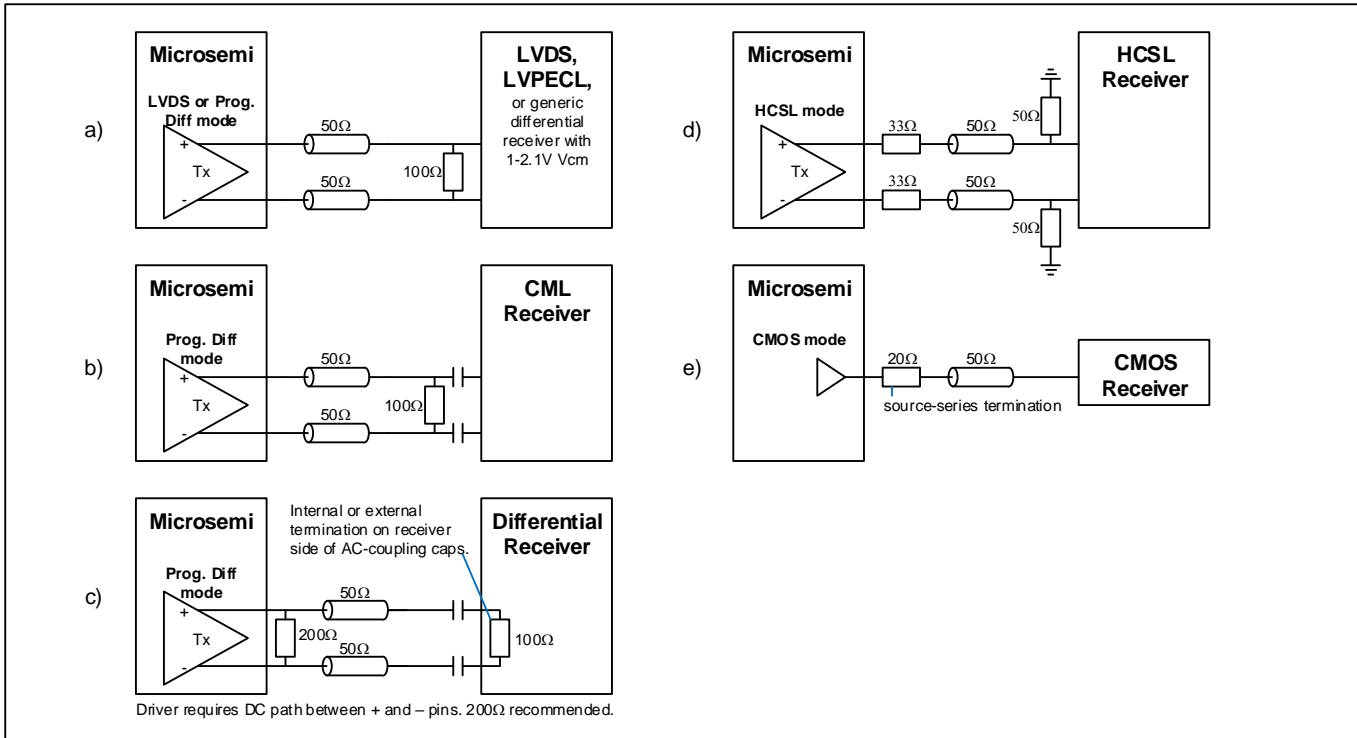

Figure 17 - Example External Components for Output Signals
**Note 1:** OCxCR2.OCSF=0001 (LVDS). Output must have 100Ω DC path between OUTxP and OUTxN to meet these  $V_{OD}$  specs. See Figure 17 parts a) and b) for examples where this DC path is a 100Ω termination resistor at the receiver.
**Note 1:** OCxCR2.OCSF=0010, OCxDIFF.VCM=1100, OCxDIFF.VOD=0101. Output must have 100Ω DC path between OUTxP and OUTxN to meet these  $V_{\text{OD}}$  specs. See Figure 17 parts a) and b) for examples where this DC path is a 100Ω termination resistor at the receiver.
Figure 17 part c) covers the case where an existing receiver has AC coupling caps followed by an internal or external 100Ω termination resistor. The driver requires a DC path between its POS and NEG pins even in this case. A 200Ω resistor is recommended. Since this arrangement attenuates the signal by one third, The `OCxDIFF.VOD` field should be set 50% higher to compensate.